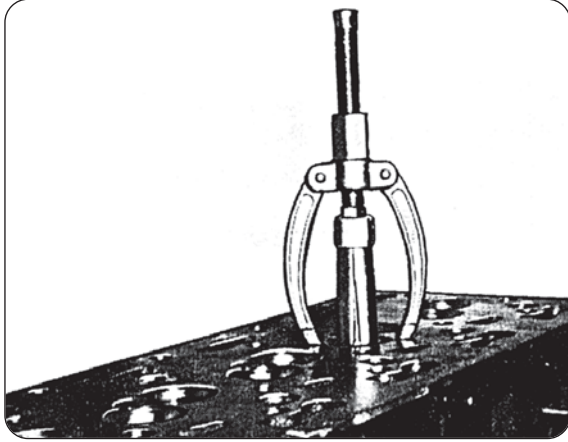

Fig. 10
- m) If the valve seat inserts are to be replaced, take a fine cut, if necessary, from the bottom of the counter bore, to ensure a square seat for the replacement insert. (See fig. 10&11)